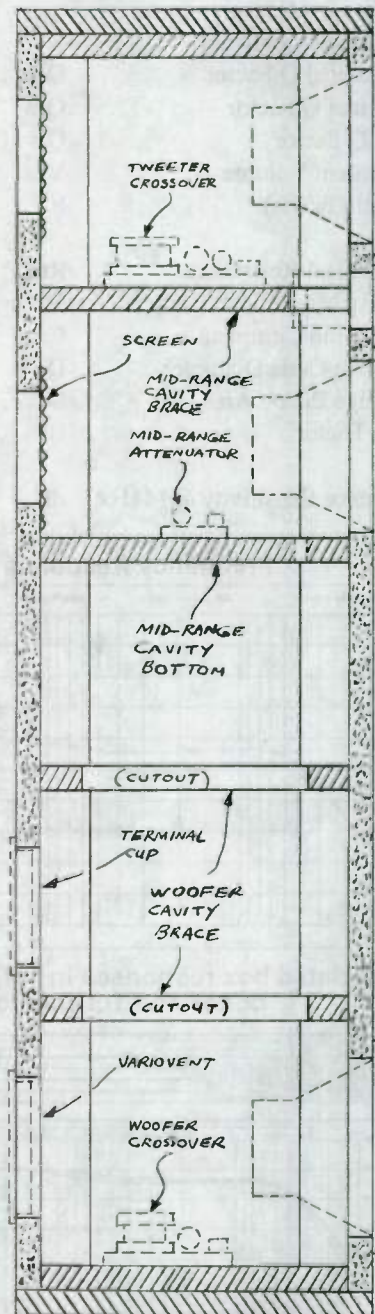

FIGURE 13: Cutaway side view of cabinet.
9. Attach the side panels to the four horizontal pieces and to the top and bottom assemblies with glue and 2" 6d nails. You'll need to clamp this all together and make sure it all squares up before nailing; then leave it clamped for an hour or so. Recess the nails with a nail set as you hammer along (see Photos 5 and 6 and Fig. 13).